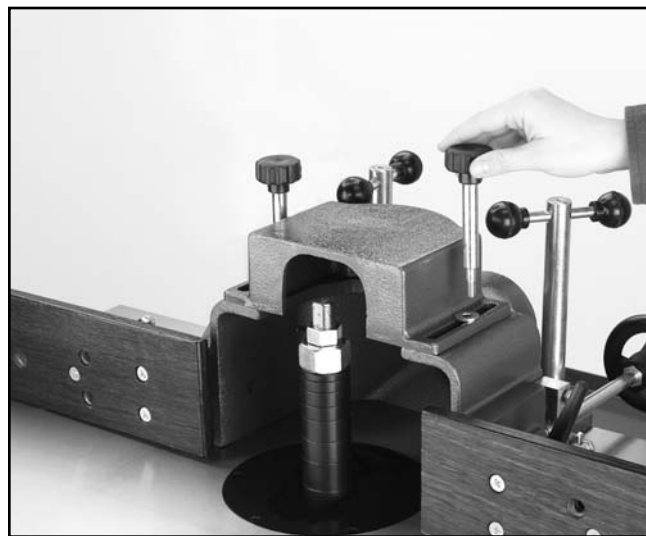

Figure 17. Guard cover.
1. Place the guard cover over the threaded holes on top of the guard body as shown in **Figure 17**.